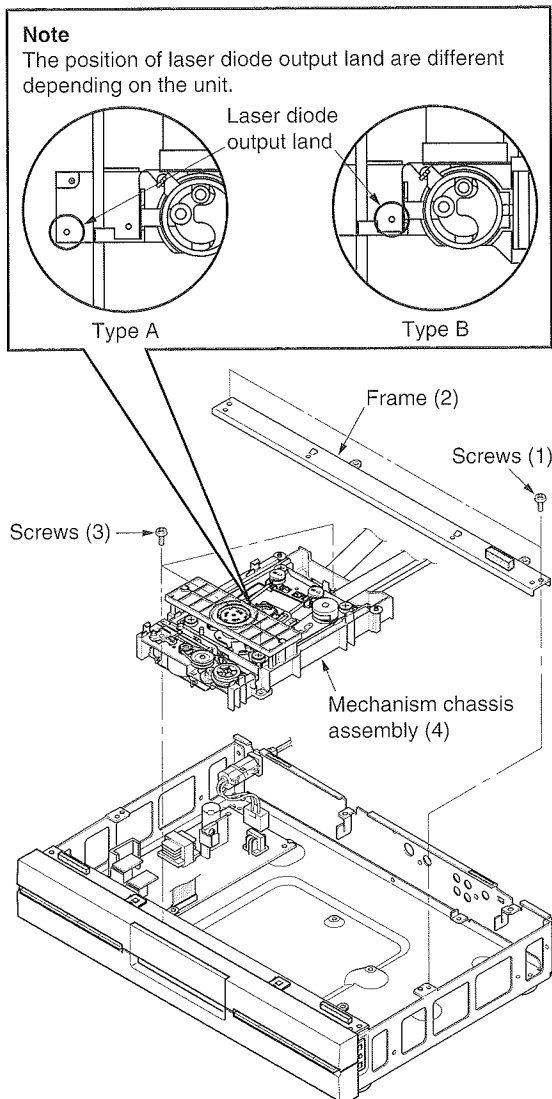

Fig. 2-12
1. Remove the upper shield plate, main PC board, lower shield plate, tray and caution label. (Refer to items 1-1-2, 1-1-3 and 1-2-1.)
2. Remove two screws (1), and remove the frame (2). (Refer to Fig. 2-12.)
3. Remove three screws (3), and remove the mechanism chassis assembly (4).